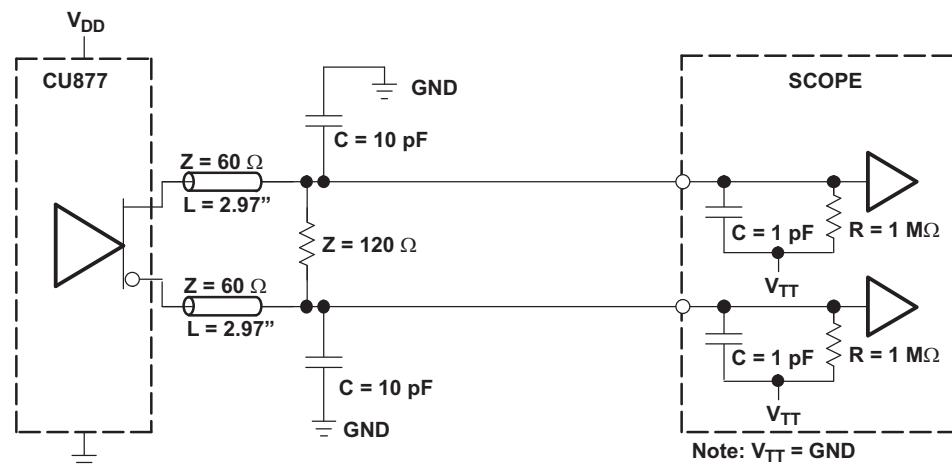
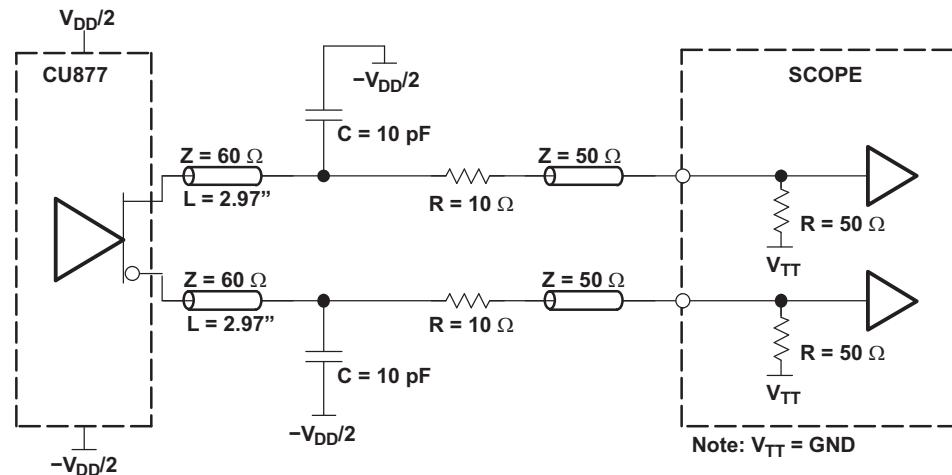

Figure 2. Output Load Test Circuit 1
Figure 3. Output Load Test Circuit 2
- (1) There are two different terminations that are used with the following tests. The load/board in Figure 2 is used to measure the input and output differential-pair cross voltage only. The load/board in Figure 3 is used to measure all other tests. For consistency, equal length cables must be used.
- (2) This parameter is specified by design and characterization.
- (3) Phase static offset time does not include jitter.
- (4) Period jitter, half-period jitter specifications are separate specifications that must be met independently of each other.
- (5) The output slew rate is determined from the IBIS model with a 120- Ω load only.
- (6) To eliminate the impact of input slew rates on static phase offset, the input skew rates of reference clock input CK and \bar{CK} and feedback clock inputs FBIN and \bar{FBIN} are recommended to be nearly equal. The 2.5-V/ns skew rates are shown as a recommended target. Compliance with these typical values is not mandatory if it can adequately shown that alternative characteristics meet the requirements of the registered DDR2 DIMM application.
- (7) Output differential-pair cross voltage specified at the DRAM clock input or the test load.
- (8) V_{ox} of CDCU877A is on average 30 mV lower than that of CDCU877 for the same application.